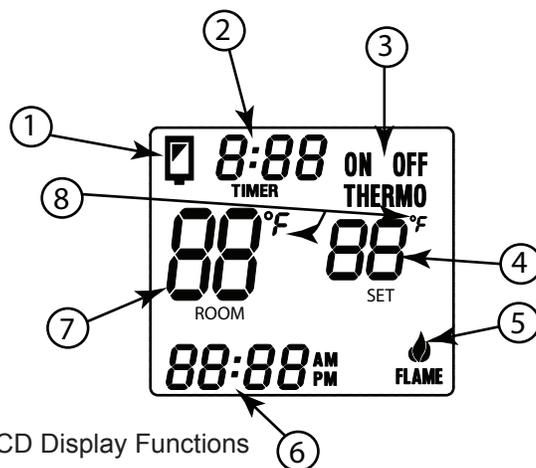

Fig. 2 LCD Display Functions
The transmitter operates on (2) AAA size 1.5DCV batteries. It is recommended that **ALKALINE** batteries always be used for longer battery life and maximum operational performance. **IMPORTANT:** New or fully charged batteries are essential for proper operation of the multi-function transmitter. Insert (2) AAA size 1.5DCV batteries into the battery compartment on the back of the transmitter, positioning the (+) and (-) ends of the batteries as indicated on the casing. When the batteries are inserted, the screen in figure 2 (with similar numbers) will display.